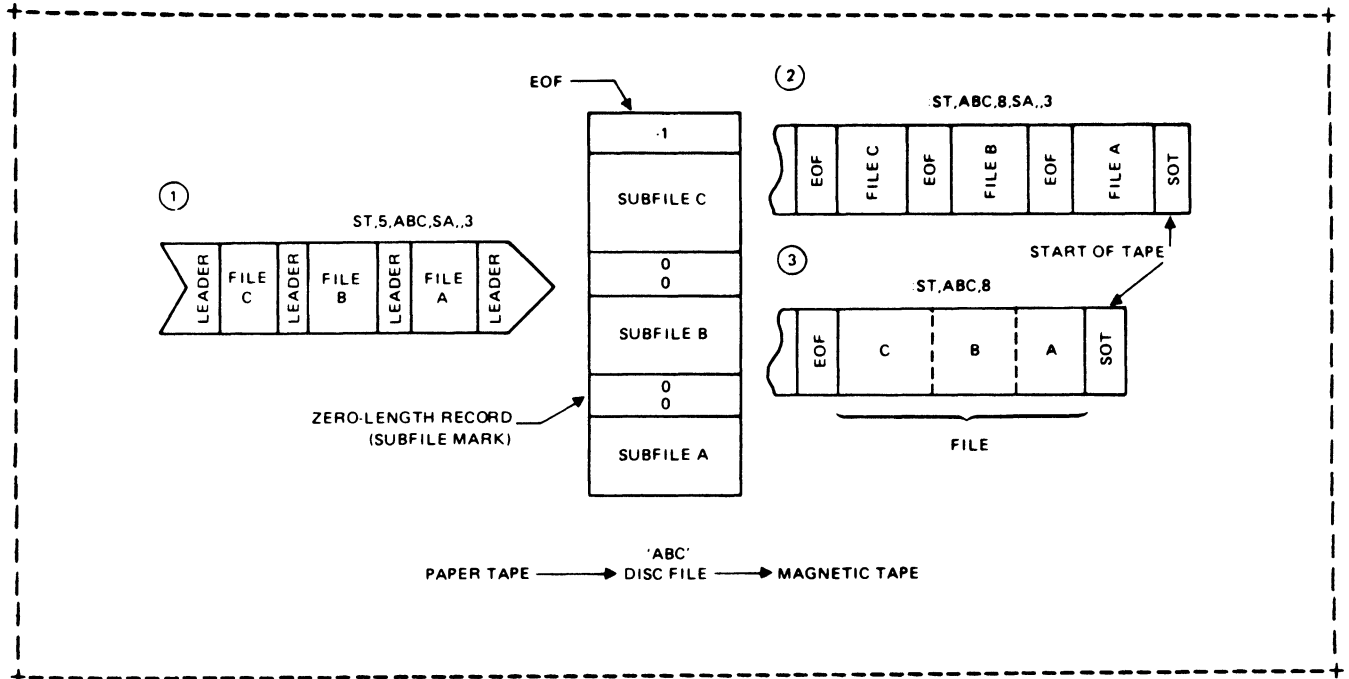

Figure 3-2. Relation of Files to Subfiles
Subfiles are useful when you want to save more than one tape file or relocatable program file (such as a library) on a single disc file and retain the files as separate entities. Subfiles can subsequently be stored (ST command) or dumped (DU command) to another file separately or as a single file (see Figure 3-2).
If EOF control is omitted, an end-of-file mark is written on namr2 following the last data transferred; on paper tape, leader is punched at the beginning of the file as well as at the end. Any zero-length records on disc or embedded end-of-file marks on non-disc files are not transferred to namr2 (see (3) in Figure 3-2).
When SA is specified, the embedded end-of-file marks are converted to the form used by namr2. For instance, if a paper tape file is being stored on disc, the leader is converted to zero-length records (see (1) in Figure 3-2) and zero-length records to EOF marks on magnetic tape (see (2) in Figure 3-2).